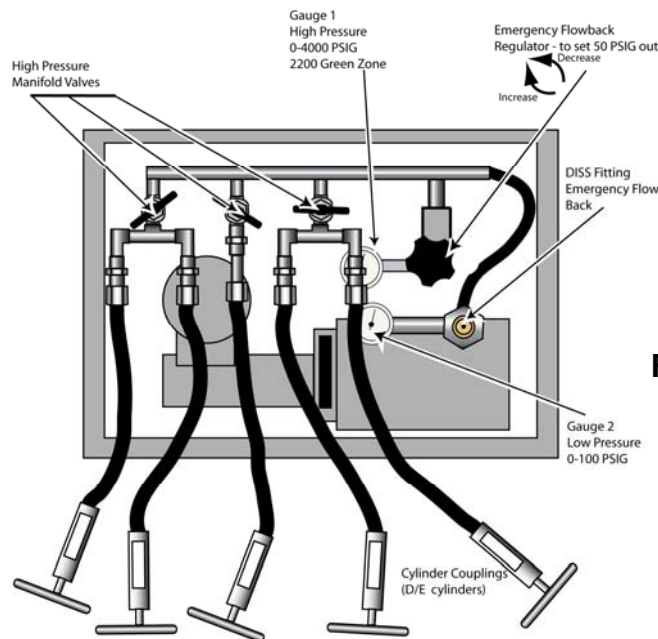

FIGURE 6-1: Microboost
6.1 Setting Up the Microboost (Refer to Figure 6-1)